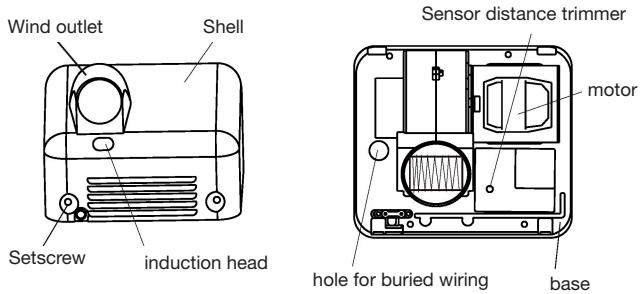

Figure 1
- If the sensor does not operate correctly, adjust the distance regulator as indicated in Figure 1.